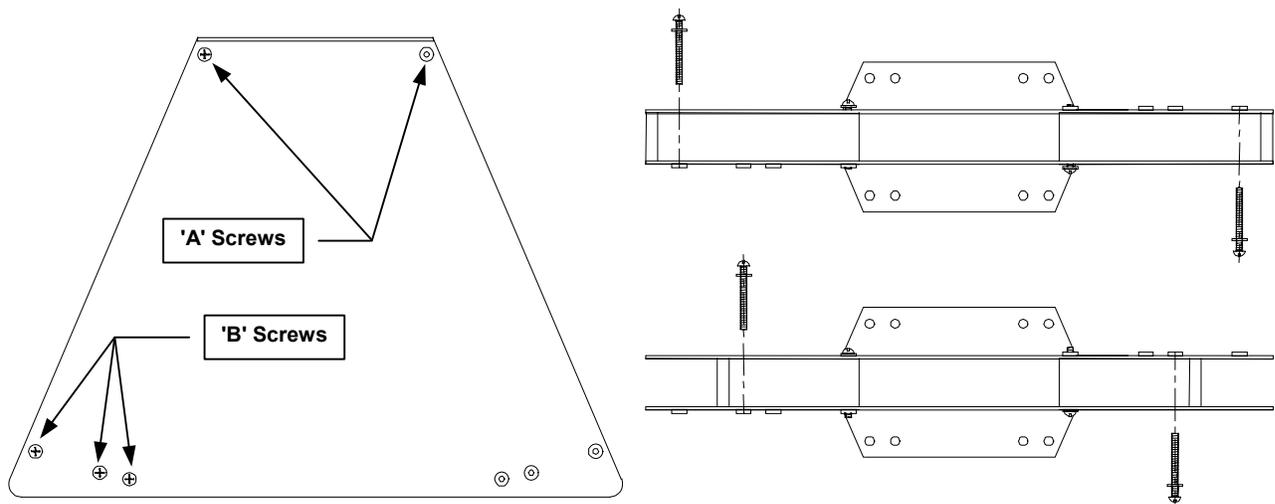

Figure G.5-5: Horn Blinder Adjustment of End Bars
- 2) Determine the separation of the emitter-to-receiver and set the end bars for that separation (Section G.5.a & Figure G.5-5) by loosening the 'A' screws and removing the 'B' screws. Rotate the end bars until 'B' holes line up and insert the 'A' screws. Tighten all screws securely.